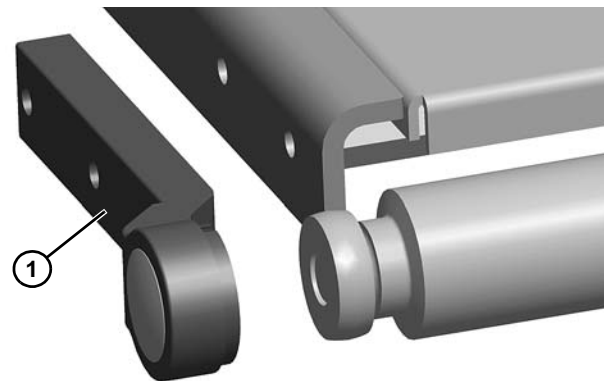

Figure 11
6. Remove the head plate (**Figure 11, item 1**) from the conveyor frame, holding spindle in place.